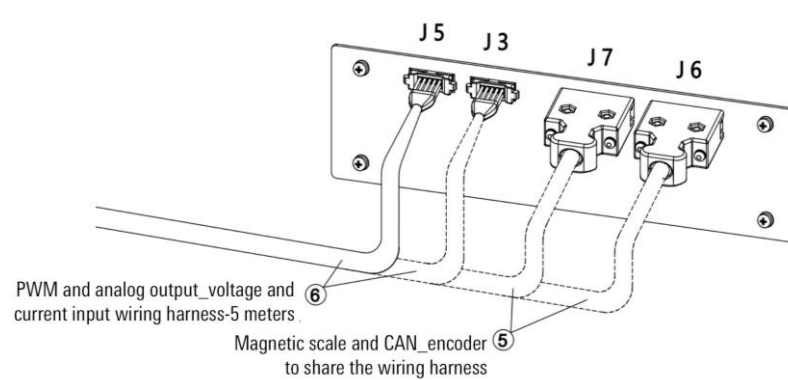

Figure 2-15 MCBS-IEB front view
Step5. Connect the outside cables of the cabinet according to the functions used, refer to Figure 2-15:
- Use PWM output and analog output signals: use ⑥ PWM and analog output\_voltage and current input harness-5 meters coupled to J5;
- Use voltage input and current input signals: use ⑥ PWM and analog output\_voltage and current input wiring harness-5 meters coupled to J3;
- Use encoder signal: use ⑤ magnetic scale and CAN\_encoder to share the wiring harness coupled to J7;
- Using magnetic scale and CAN signal: Use ⑤ magnetic scale and CAN\_encoder to share the wiring harness coupled to J6.